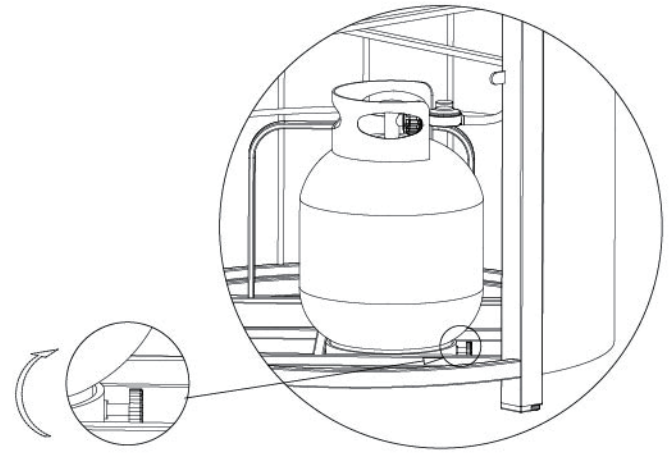

Figure 5
- Secure the cylinder by tightening clockwise the Adjusting screw found on the metal stand (G) (see Figure 5), so that the cylinder cannot move from side to side or fall down.